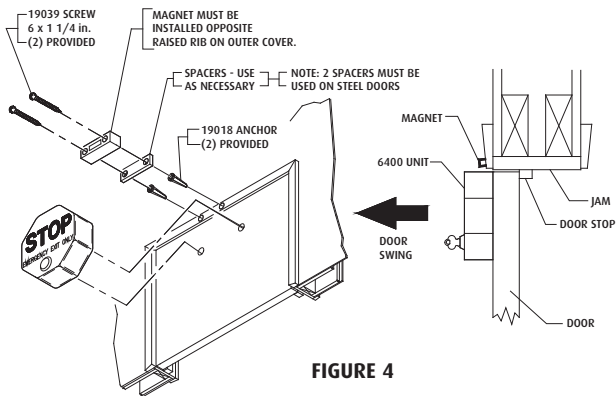

FIGURE 4
6. Mount magnet on door frame (or door if unit is mounted next to door) using screws provided. When mounting on metal doors or door frames, use plastic spacers provided. Reed switch and magnet must be within 3/4" when door is closed (3/8" on metal door and frame). Please refer to figures 4, 5 and 6 on page 6 for other mounting options.